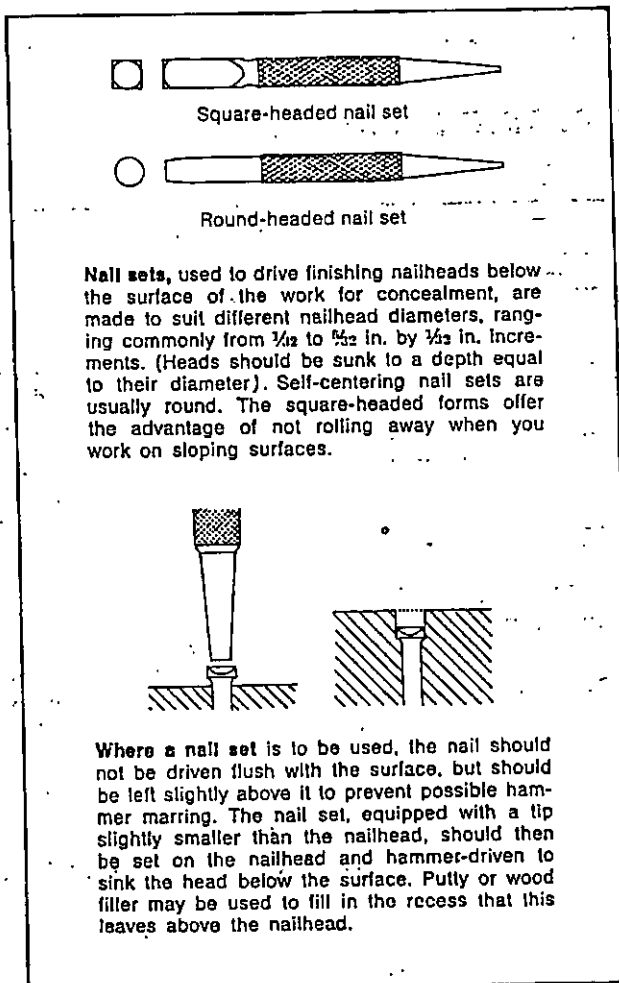

FIGURE 13
Step 3. Fill the hole with wood putty. (See Fig. 13)